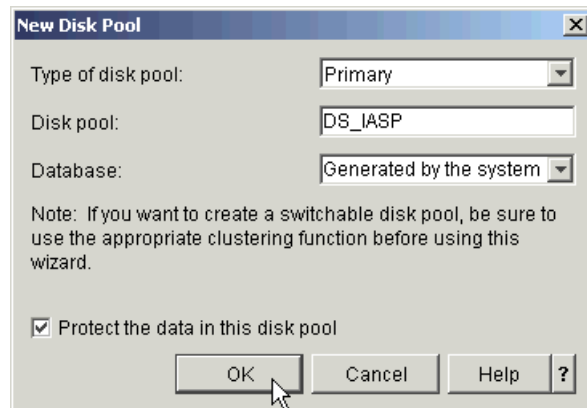

Figure B-12 Defining a new disk pool
7. On the New Disk Pool dialog shown in Figure B-12, select **Primary** from the pull-down for the Type of disk pool, give the new disk pool a name and leave Database to default to **Generated by the system**. Ensure the disk protection method matches the type of logical volume you are adding. If you leave it unchecked, you will see all available disks. Select **OK** to continue.